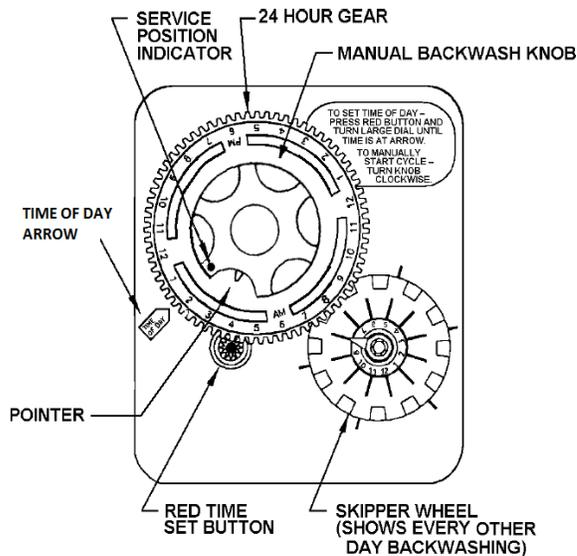
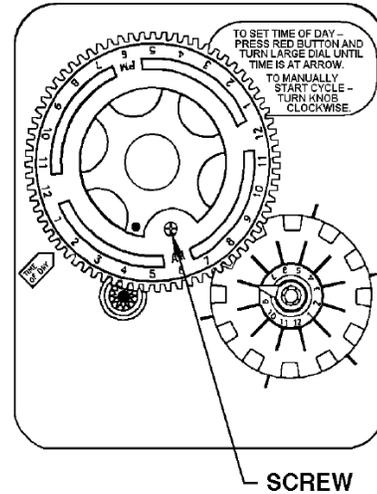

FIGURE 4a: Timer in Service Position
FIGURE 4b: Adjusting Time of Regeneration
Be sure the control valve is in the "Service" position. For the OXY3 models the service indicator should point to the time-of-day arrow (See figure 4a, page 7).
STEP 12: Set the Timer Control (Figure 4a) by rotating the Skipper Wheel (Figure 4a) so the red pointer is directly over day 1. Select the days when backwashing will occur by sliding the metal tabs in or out. IN indicates no backwashing will occur on that day, OUT indicates that backwashing will occur on that day. **Factory setting is to initiate backwash every third day.**
For the OXY3 turn the manual backwash knob (figure 4a) clockwise until the drive gear engages the program wheel and water begins flowing to drain. Immediately unplug the control valve from the power outlet and leave the unit in backwash until the drain water runs clear. Then plug the control valve back into the power outlet and allow the regeneration cycles to complete automatically before continuing to step 14.
STEP 14: Set the current time of day. For the OXY3 start by depressing the red Time Set Button (Figure 4a) and turning the 24-Hour Gear (Figure 4a) to the desired time (note AM and PM).
- b) Locate three screws (Figure 4b) behind the Manual Backwash Knob (Figure 4a) by pushing the red Time Set Button (Figure 4a) and rotating the 24-Hour Gear (Figure 4a) until each screw appears in the cut-out portion of the Manual Backwash Knob.
- d) Continue depressing the red Time Set Button and rotate the 24-Hour Gear to expose the Regeneration Time Pointer (Figure 4a) in the cut-out portion of the Manual Backwash Knob. Keep the Regeneration Time Pointer visible in the cut out while rotating only the time plate until the desired time of regeneration (note AM and PM) is aligned with the Regeneration Time Pointer. **NOTE: subtract 136 minutes from the desired time for the start of backwash to determine where the Regeneration Timer Pointer should point.**